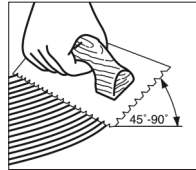

Figure 9
- Hold trowel at a minimum 45° angle (Figure 9) firmly against the subfloor to obtain a 40-60 ft.2 (4-5.5 m2) per gallon spread rate. The trowel will leave ridges of adhesive and very little adhesive between the ridges. This will allow you to still see the chalk lines between the ridges and provide the recommended spread rate.